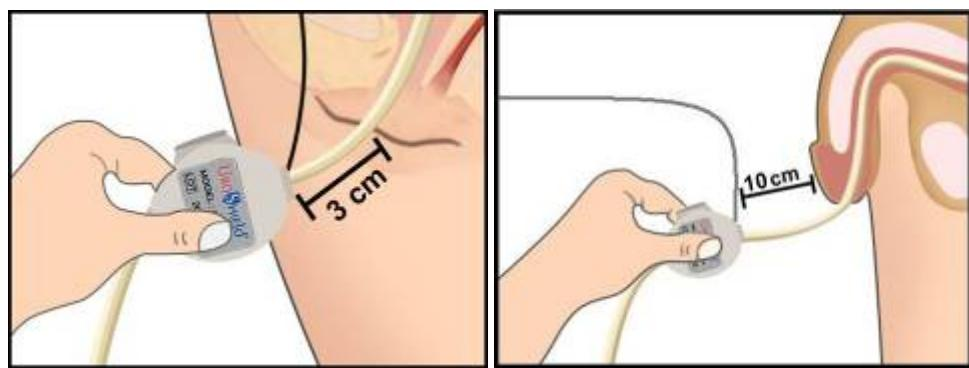

Figure 4: Actuator locked in place
5. Once the actuator is in place, close the actuator carefully, until the two sides snap together (Figure 4 below).